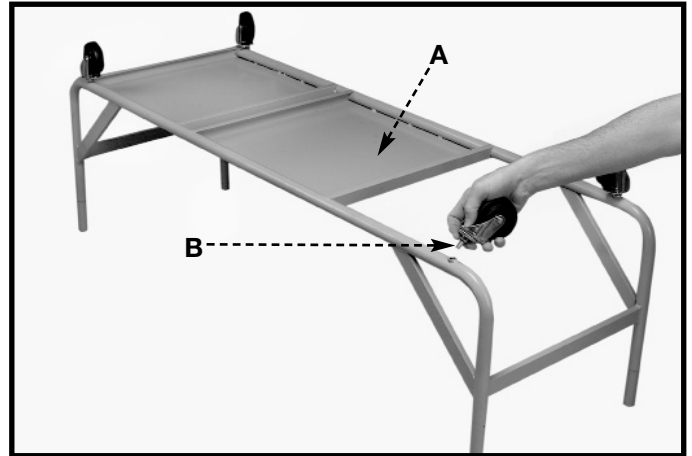

Fig. 1C
1. Turn stand (A) upside down, as shown in Fig 1C.
2. Place 3/8" lockwasher on caster stud (B) and screw caster into threaded hole on the bottom of the stand. Repeat for other three casters.